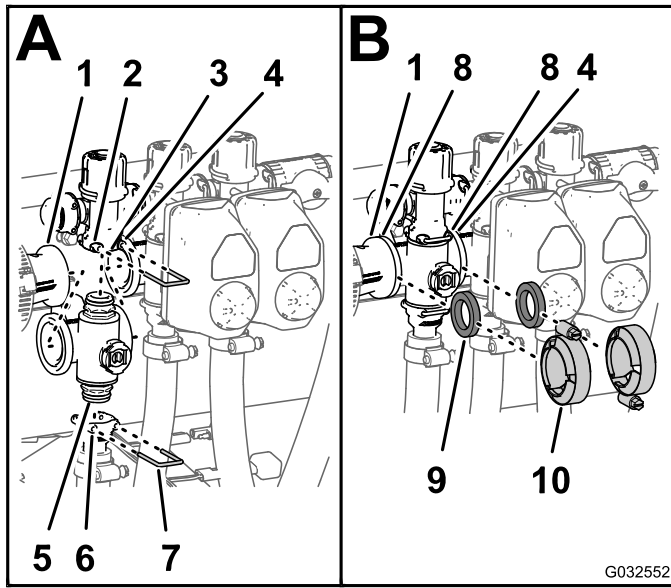

Figure 112
- Insert the upper end-cap fitting of the manifold valve into the bypass fitting (A of Figure 112).
- Secure the end-cap fitting to the bypass fitting by inserting a retainer into the socket of the bypass fitting (A of Figure 112).
- Assemble the outlet fitting onto the lower end-cap fitting of the manifold valve (A of Figure 112).
- Secure the end-cap fitting to the outlet fitting by inserting a retainer into the socket of the outlet fitting (A of Figure 112).
- Align a gasket between the flanges of the reducer coupling and the section-valve manifold (B of Figure 112).
- Assemble the reducer coupling, gasket, and section-valve manifold with a clamp tightened hand tight (B of Figure 112).
- If installing the 2 left section valves, align a gasket between the flanges of the 2 adjacent section-valve manifolds (B of Figure 112).
- Assemble the 2 adjacent section-valve manifolds and gasket with a clamp tightened hand-tight (B of Figure 112).